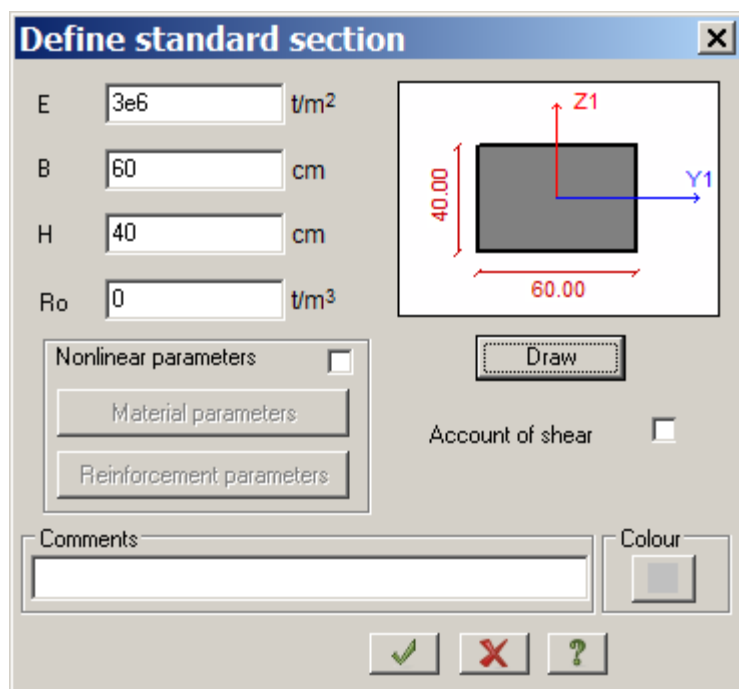

Figure 1.10 **Define standard section** dialog box
- ⇒ In the **Define standard section** dialog box specify the following parameters for **Rectangular bar** (see Fig.1.10):